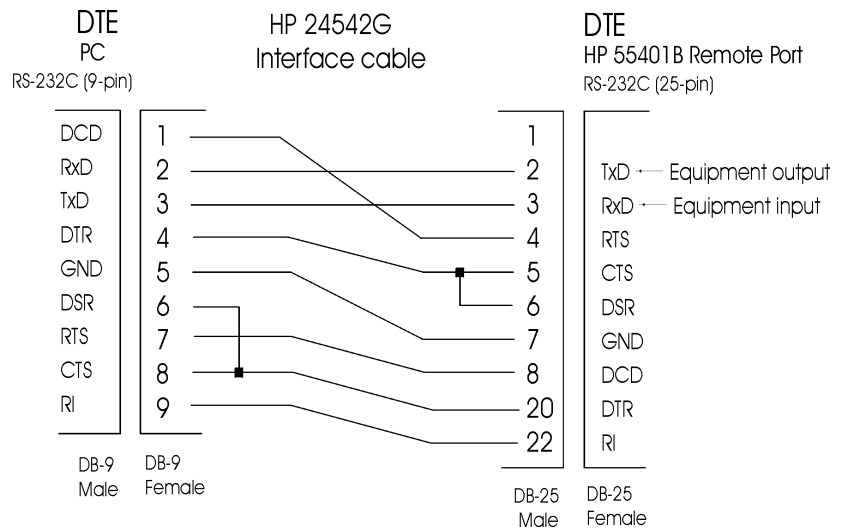
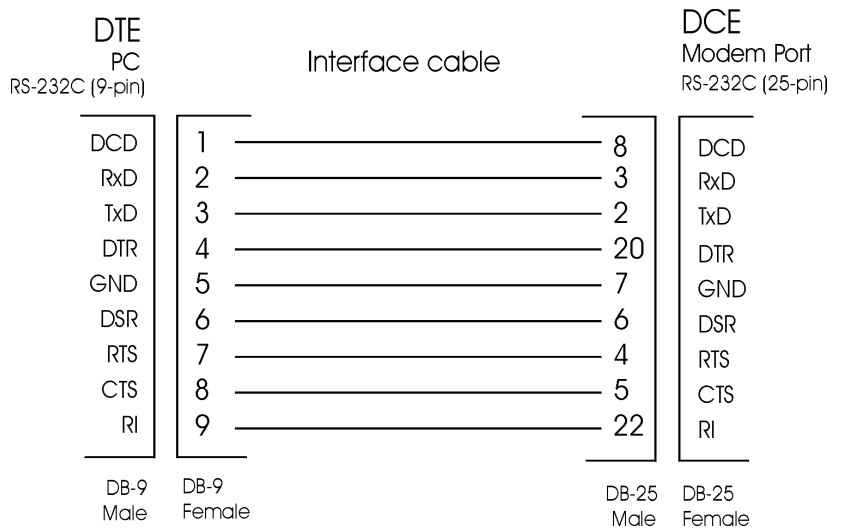

Figure 4-1. Cabling illustration - 1
Figure 4-2. Cabling illustration - 2
Connection Requirements Table 4-1 is a complete list of the types of cards needed and ports used for each type of connection. Table 4-2 lists the types of cables recommended for each supported connection. If you choose to make your own cable, see Figure 4-1 and Figure 4-2.
RS-232 (remote)	9-pin Female to 25-pin Male Serial cable (HP 24542G or equivalent, please refer to Figure 4-1), to connect PC Com port directly to NSU Remote port
MODEM	1. 9-pin Female to 25-pin Male Serial cable (refer to Figure 4-2 for specifics), for the connection between the PC Com port and the modem (for PC) RS-232 port; 2. 25-pin Male to 25-pin Male "Straight-through" cable (HP 40242M), for the connection between the NSU Remote port and another modem (for NSU) RS-232 port; 3. two telephone cords, to connect modems to their respective phone jacks
2. Connect your PC **Com** port to the NSU **Remote** port with the proper 9-pin female to 25-pin male cable (HP 24542 or equivalent). Refer to Figure 4-1 on page 16 for details.
3. Connect your PC **Com** port to the modem **RS-232** port with a 9-pin Female to 25-pin male cable (refer to Figure 4-2 on page 16), and connect modem jack labeled “LINE” to phone jack with a telephone cord, then apply power to the modem.